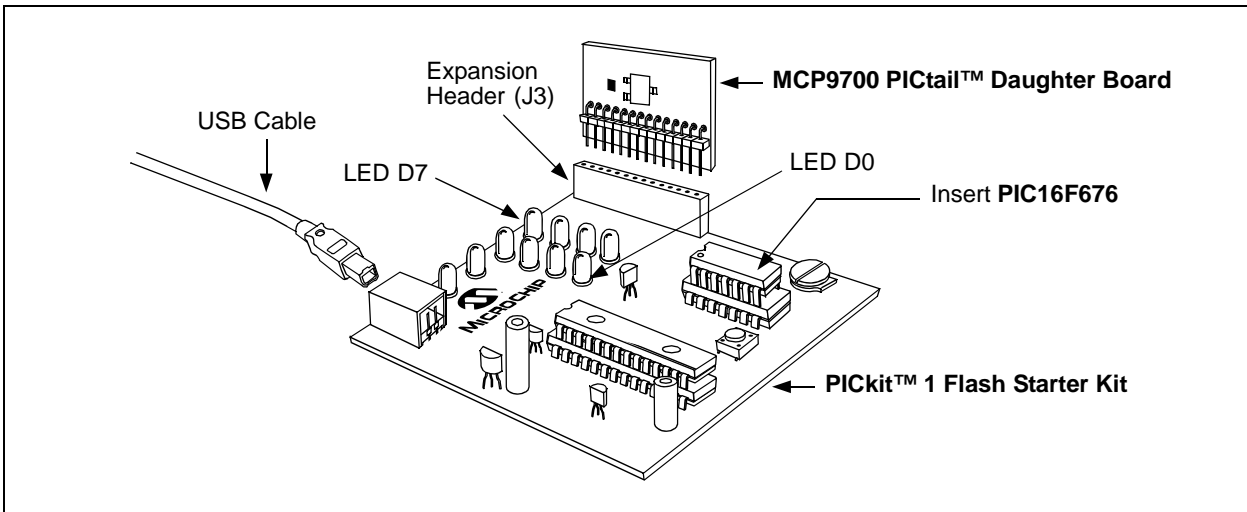
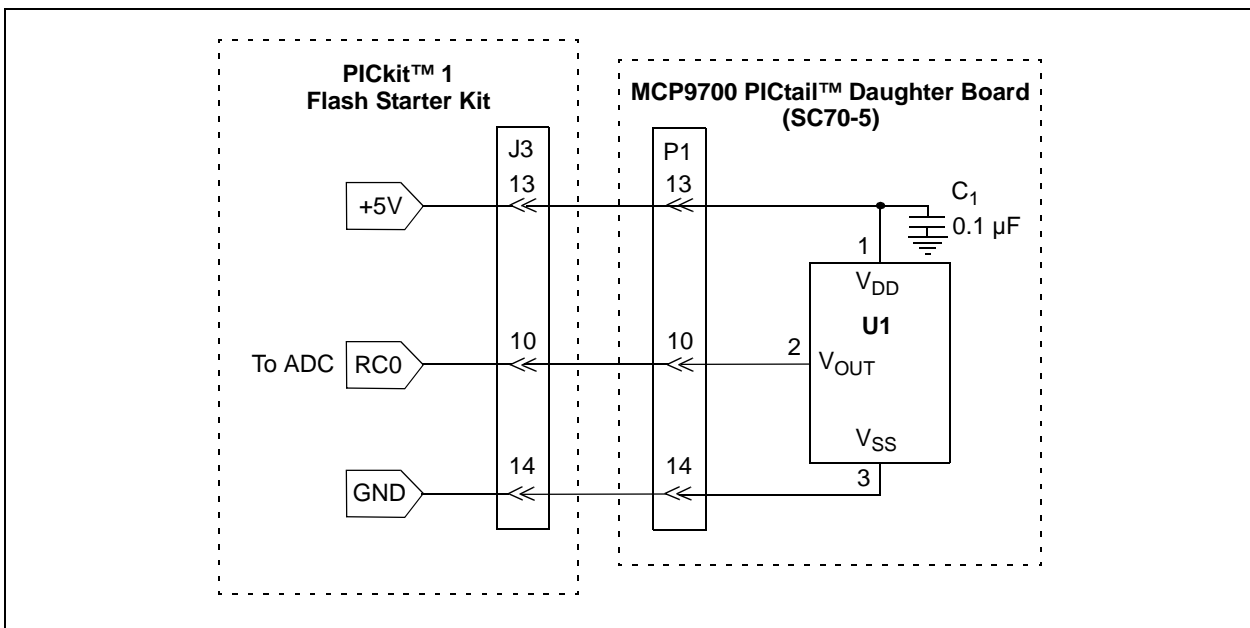

FIGURE 2-2: MCP9700 PICtail™ Daughter Board and PICkit™ 1 Flash Starter Kit.
FIGURE 2-3: Simplified MCP9700 PICtail™ Daughter Board Schematic.
1. Connect the P1 header of the MCP9700 Temperature-to-Voltage Converter PICtail™ Demo Board to the J3 connector on the PICkit 1 Flash Starter Kit board. Refer to Figure 2-2 for proper orientation of the MCP9700 Temperature-to-Voltage Converter PICtail™ Demo Board and Figure 2-3 for the simplified board schematic.